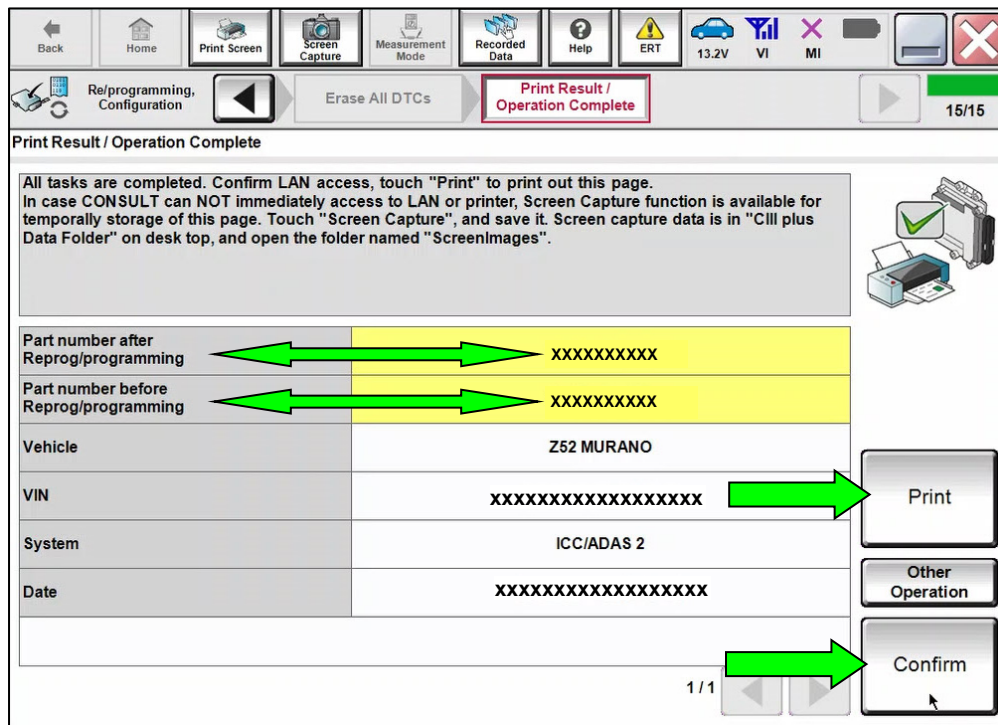

Figure 24
HINT: When the entire reprogramming process is complete, the screen in Figure 24 will display.
30. Print a copy of the screen below (Figure 24) and attach it to the repair order for warranty documentation.